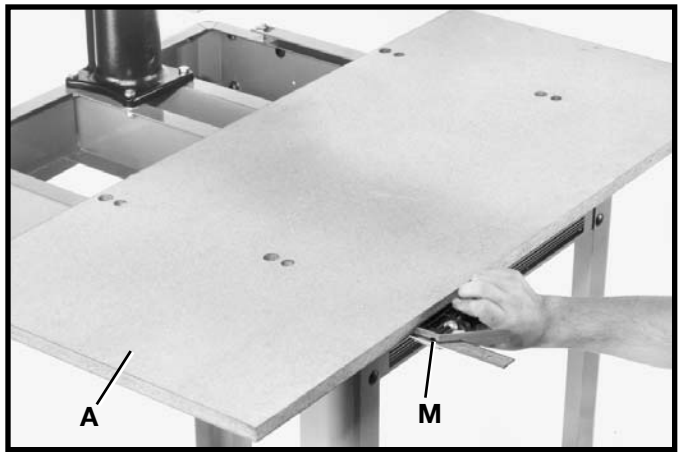
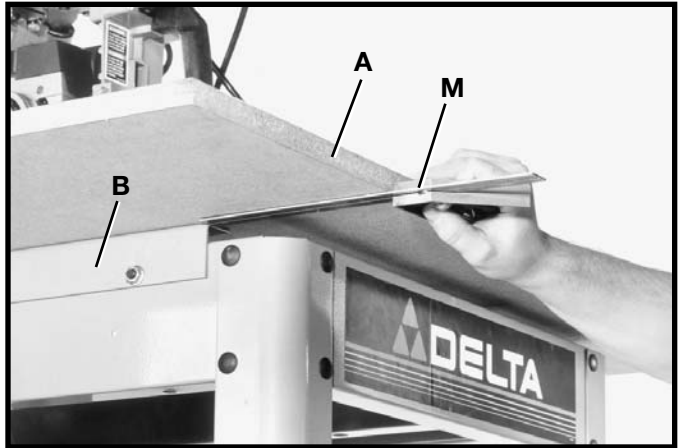

Fig. 19
Fig. 20
5. Using a combination square (M) Figs. 19 and 20, check the left and right front edge of table board (A) to make certain both sides are the same distance from the edge of each table support (B) Fig. 20.